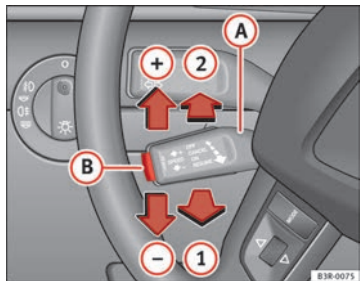

Fig. 140 Controls for the cruise control system
- Pull the lever **A** to position  $\Rightarrow$  fig. 140 **1** to activate the system.
- Move the lever **A** up towards  $\Rightarrow$  fig. 140 **+**.
- Move the lever **A** down towards  $\Rightarrow$  fig. 140 **-**.
- You can increase the set speed in steps of 2 km/h by briefly pressing the lever **A** up towards  $\Rightarrow$  fig. 140 **+**.
- You can decrease the set speed in steps of 2 km/h by briefly pressing the lever **A** down towards  $\Rightarrow$  fig. 140 **-**.
If no speed was stored when the system was temporarily disabled, a new speed can be set as follows: drive at the desired cruising speed and briefly press button ⇒ fig. 140 **B** (SET).
- Move lever **A** ⇒ fig. 140 to position **2** (click stop engaged).